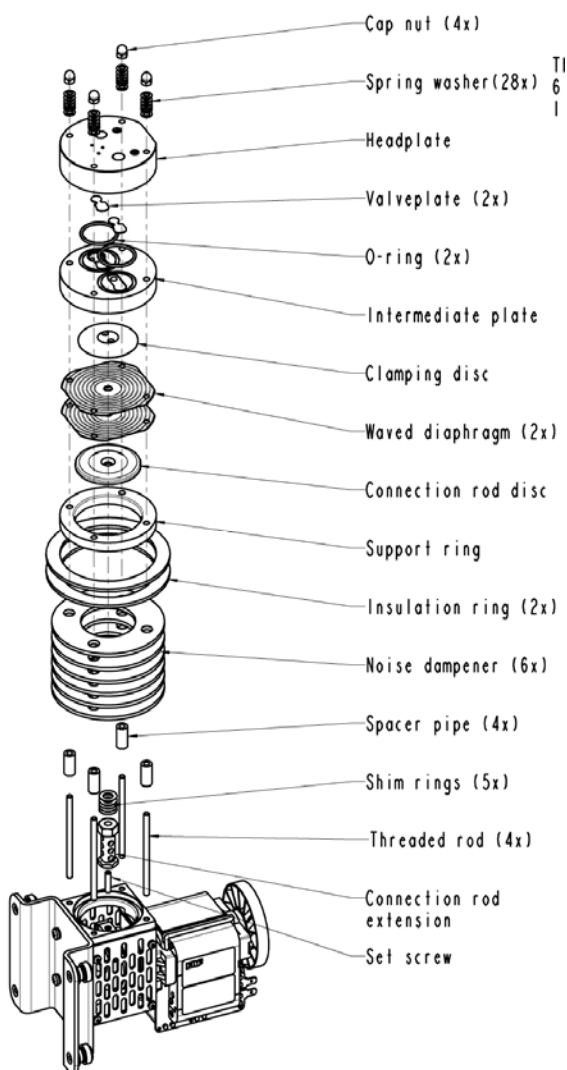

Figure 7-7. Rebuilding the Pump—New Technology (Heated Head Version)
For the new technology pump (repair kit part number 108091-00), use the following procedure to rebuild the pump (Figure 7-7, provided by KNF). The new technology pump will have the repair kit part number on its label. If no repair kit part number is listed, refer to the procedure for the older model pump following this procedure.
12. Place the clean head plate on top of the intermediate plate using the reference mark made earlier to ensure the correct orientation. Install the four cap nuts and spring washers according to the spring washer assembly diagram in Figure 7-7. Tighten the cap nuts in a diagonal pattern to a torque of approximately 4 inch-lbs taking care that the spring washers are fully engaged, but not overly compressed.